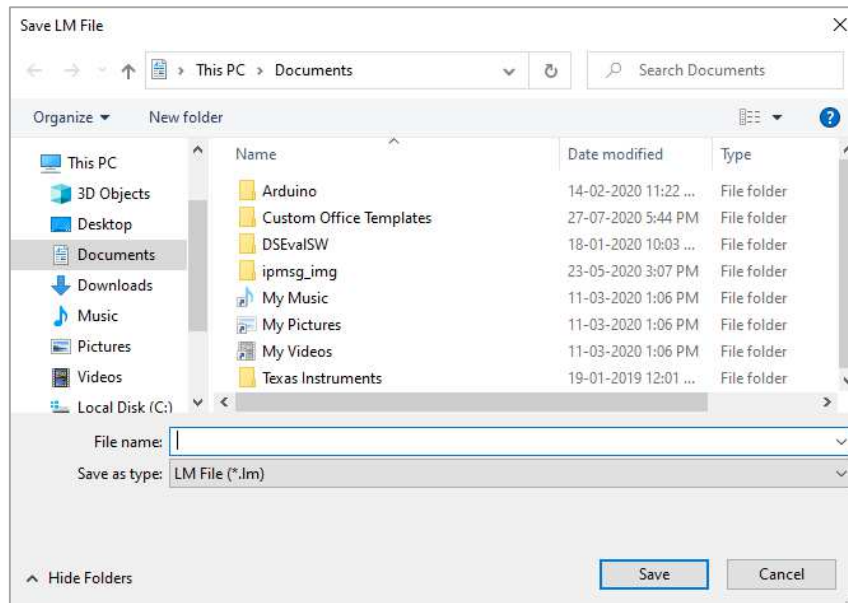

Figure 13 Selecting file location for saving data summary
- Select the download option, choose the appropriate file path and batch file name for saving the data file and press button in the pop-up window as shown in figure 13.